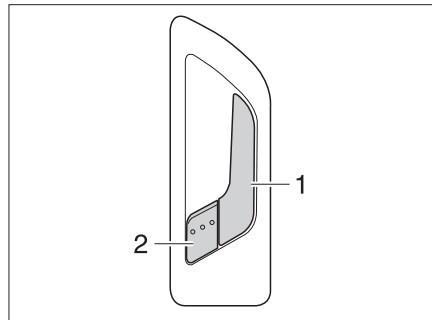

Fig. 42 Door lock of conversion door, inside
- Pull on the handle (Fig. 42,1). The door lock is unlatched. The locking lever (Fig. 42,2) jumps out automatically.
- Press the locking lever (Fig. 42,2).